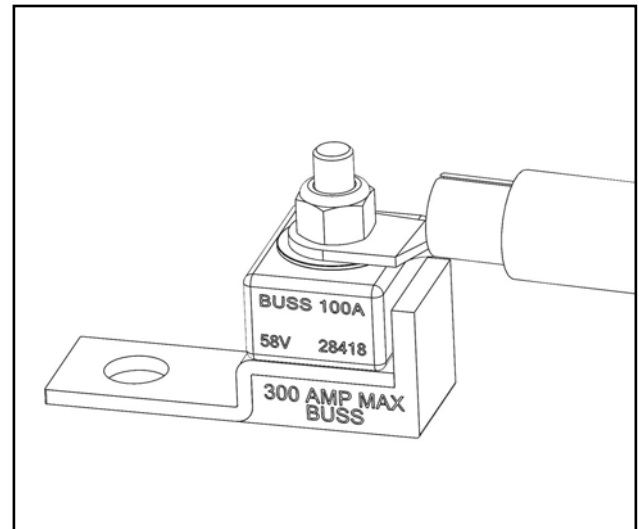

Fig. 4.2 (Install Fuse & Fuse Mounting Bar; Note: Rubber Boot Not Shown)
- 4.2** Install 100 amp fuse and fuse mounting bar onto either end of the Engine Side Power Supply Harness (P/N: 9SV-WH-00117), per fig 4.2.